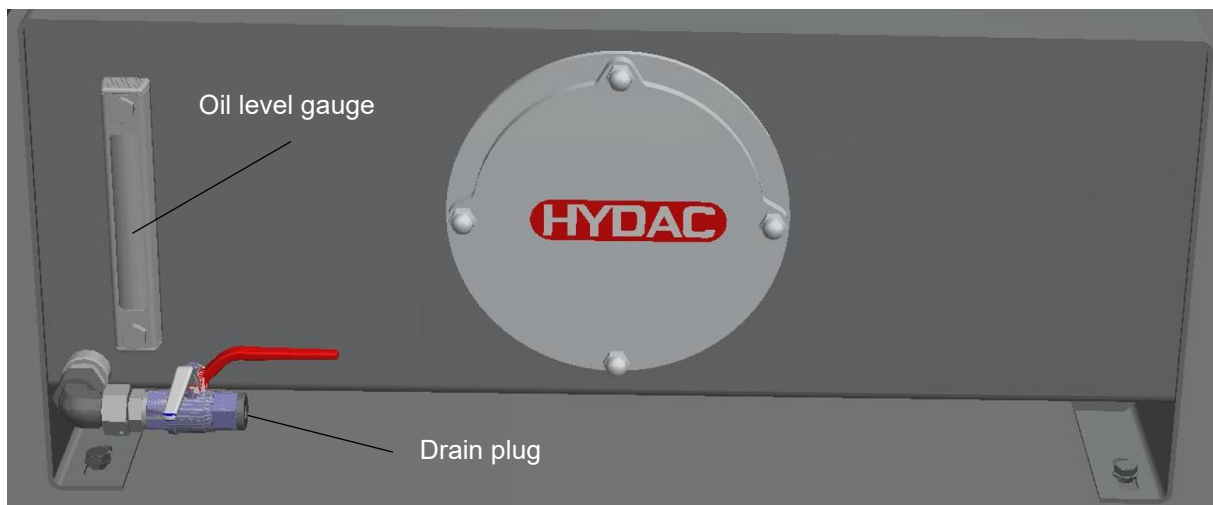

Fig. 74
- Close the lid of the filler neck. Start the pelletizer and check the fluid level through the sight glass (fig. 74). Top up fluid, if required.